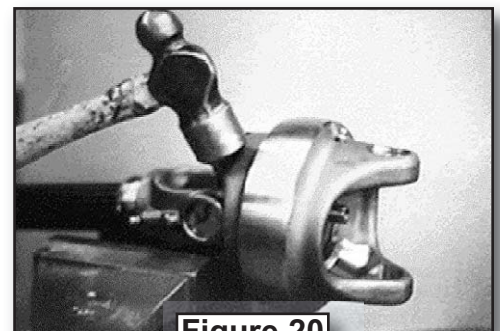

Figure 20
23. Set the shaft yoke on the vise so the ears of the shaft yoke are supported by the jaws of the vise. Carefully hit the center housing with the hammer to seat the bearing cup against the snap ring. **DO NOT** hit the center housing on the machined surface or near the opening for the bearing cup (see *Figure 20*).